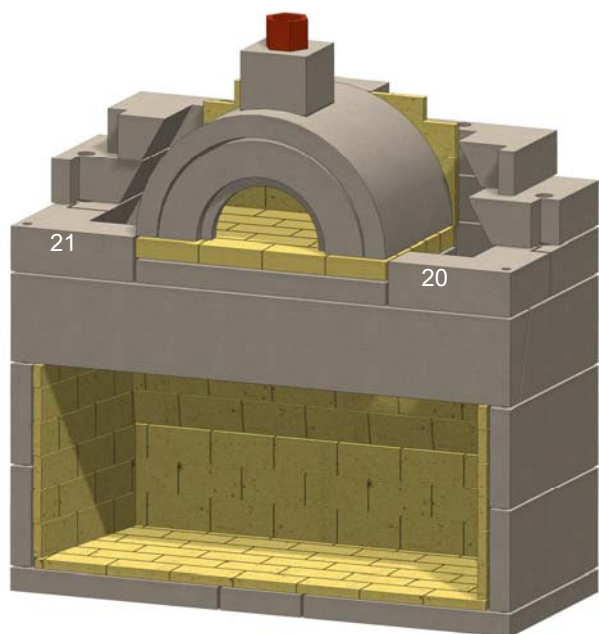

Figure 29. Lower Front Throat Pieces
T. Install the lower throat left and right front pieces (20 & 21). See Figure 29.